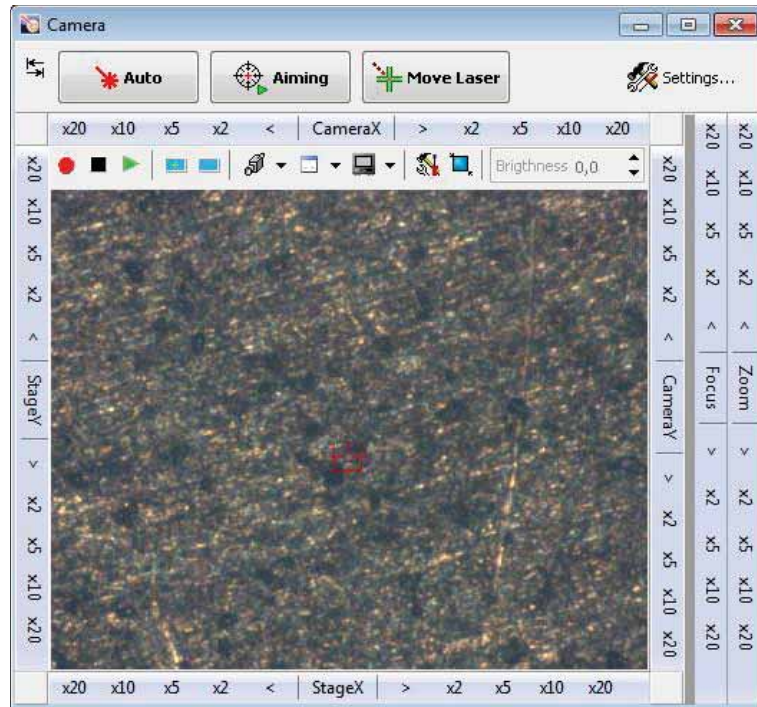

Fig. 7-10 Surface of the metal substrate in focus of the videomicroscope
6. Move the scanner upwards so as the substrate surface comes to the focus of the videomicroscope (see Fig. 7-10). To this purpose, click the  button. As the sample reaches the focus of the videomicroscope, stop movement by clicking the button again .